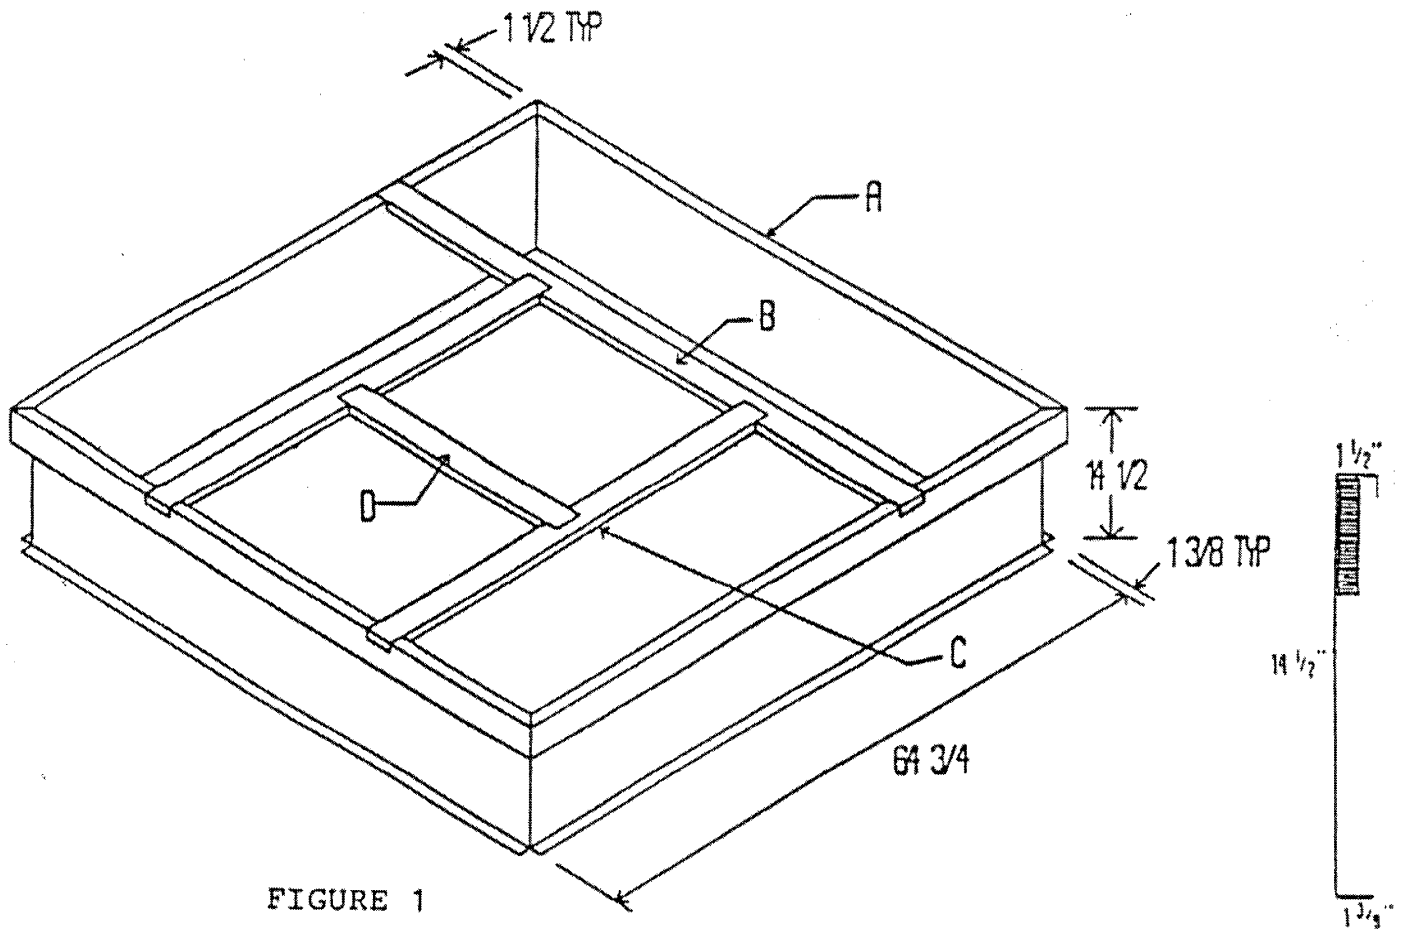

FIGURE 1
3. Layout duct support pieces (B,C,&D) as shown in figure 1. Fit support pieces over curb perimeter and into slots as pictured.